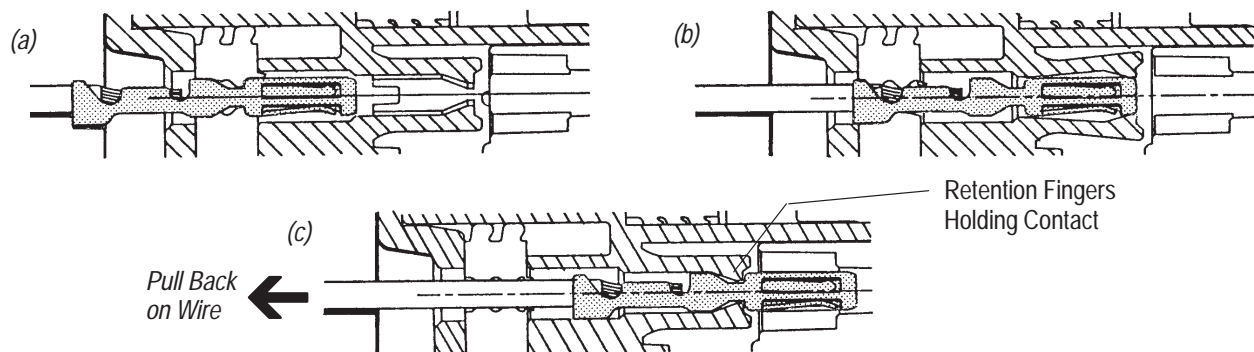

Figure 4
1. To insert a contact, push it straight into the appropriate circuit cavity as far as it will go (see Figure 4).
2. Pull back on the contact wire with a force of 1 or 2 lbs to be sure the retention fingers are holding the contact (see Figure 4).